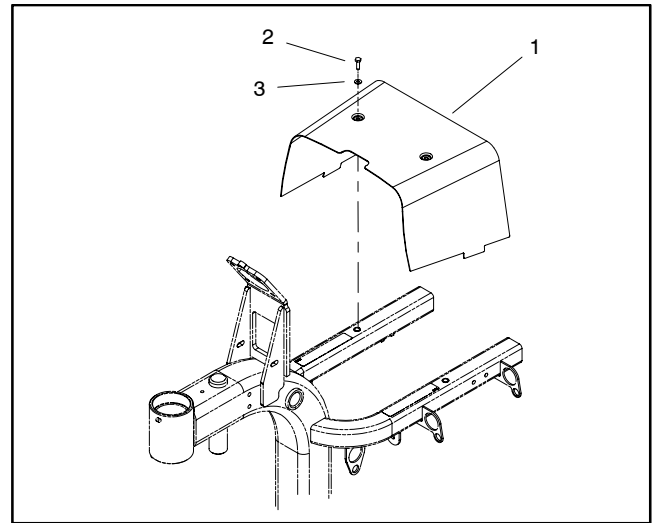

Figure 31
2. Remove two (2) cap screws and flat washers that secure center shroud to machine (Fig. 31). Lift center shroud from frame.
11. Remove three (3) tank clamps (items 10 and 12) that secure hydraulic tank to the frame.
3. Secure hydraulic tank to frame with three (3) tank clamps (items 10 and 12).
8. Position center shroud to frame and secure with two (2) cap screws and flat washers (Fig. 31).